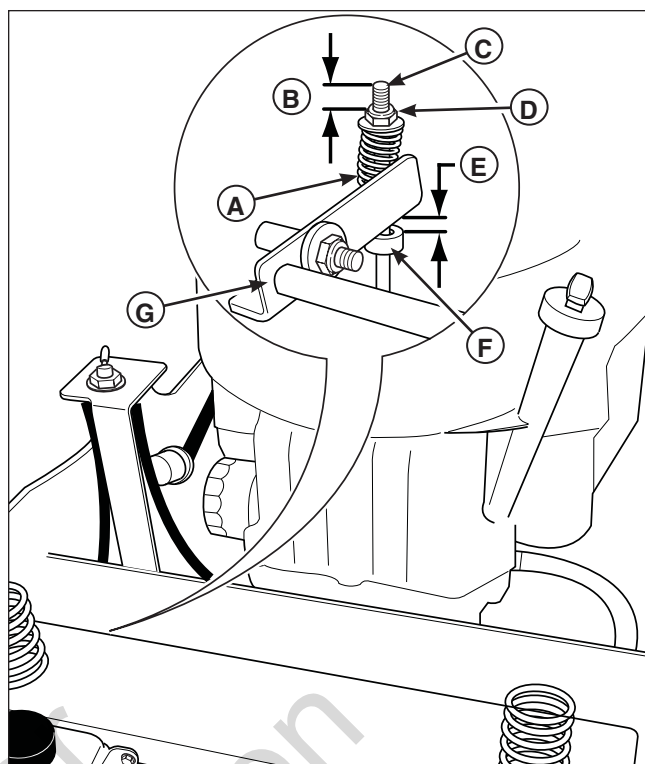

Figure 34. Parking Brake Adjustment
3. Measure the distance from the top of the brake spring rod (C, Figure 34) to the top of the lock nut (D) on both sides of the unit. The measurement should be .50" (1,27 cm). If not, adjust the locknut to achieve the measurement of .50" (1,27 cm)
4. Measure the distance between the bottom of the brake shaft weldment (G) and the top of the set collar (F). The measurement should be .375" (0,95 cm). If not, position the set collar until the measurement equals .375" (0,95 cm).